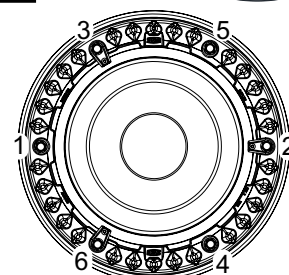
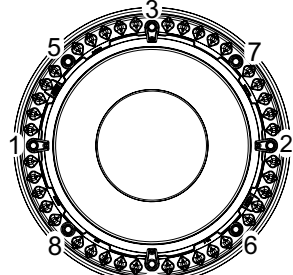

Fig. 1a
Fig. 1b
- e. Insert clamping collar hardware through the holes and hand tighten down in a star pattern progressively. (Fig. 1a, Fig. 1b)
- f. Tighten the bolts securely in the patterns shown (Fig. 1a shows 2 thru 4 [51 thru 102] outlets and Fig. 1b shows 6 thru 8 [152 thru 203] outlets) to 25 ft-lbs maximum torque.